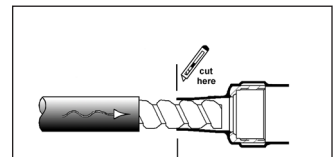

Figure 3B
- Method 2: Strip cable jacket off armor. Progressively cut slices off boot until opening can snugly slide on armor. (Figure 3B).